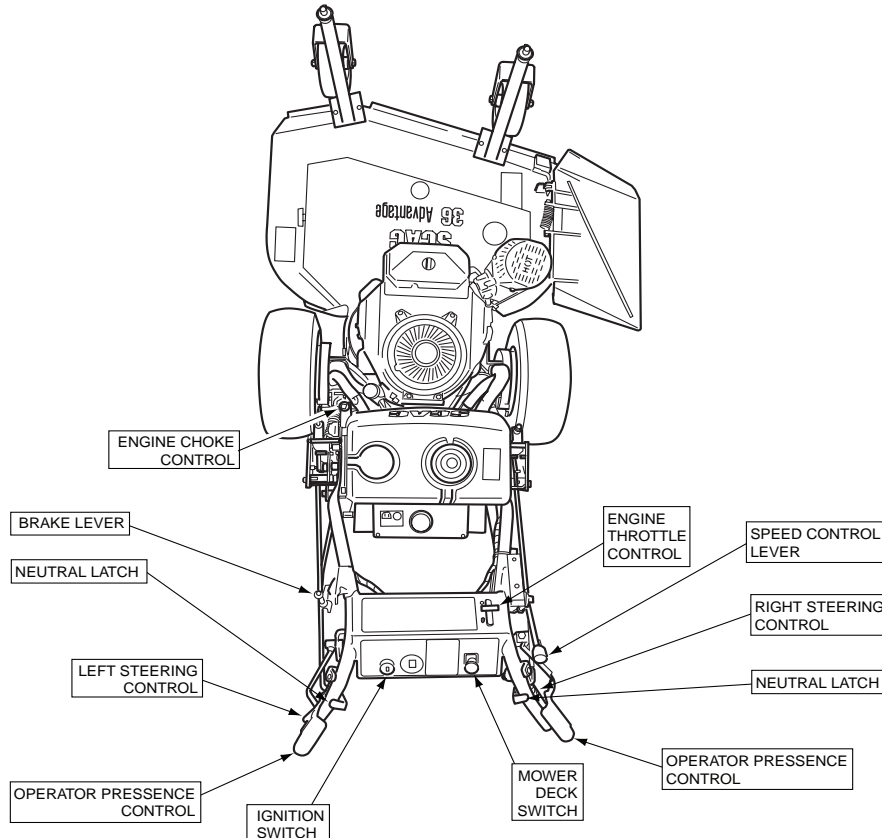

Figure 4-1. Controls and Instruments
1. **Ignition Switch (Figure 4-1).** The ignition switch is used to start the engine. Turn the key to the on position before pulling the recoil starter.
2. **Mower Deck Switch (Figure 4-1).** Used to engage and disengage the mower drive system. Pulling up on the switch will engage the deck drive. Pushing down on the switch will disengage the deck drive.
3. **Engine Choke Control (Figure 4-1).** Used to start a cold engine.
4. **Engine Throttle Control (Figure 4-1).** Used to control the engine speed. Pushing the lever forward increases engine speed. Pulling the lever back decreases engine speed. Full back position is the IDLE position. Full forward is the cutting position.
5. **Left Steering Control (Figure 4-1).** Used to control the mower's left wheel when traveling forward or reverse. Pull upward for neutral and reverse.
6. **Right Steering Control (Figure 4-1).** Used to control the mower's right wheel when traveling forward or reverse. Pull upward for neutral and reverse.
7. **Speed Control Lever (Figure 4-1).** Used to select the forward speed.
8. **Neutral Latch (Figure 4-1).** Used to secure the belt drive system in neutral. Apply neutral latches when parking the machine.
9. **Operator Presence Control (Figure 4-1)**
10. **Parking Brake Lever (Figure 4-1)** Used to engage and disengage the parking brake. Pull the lever back to engage the parking brake. Push the lever forward to disengage the parking brake.